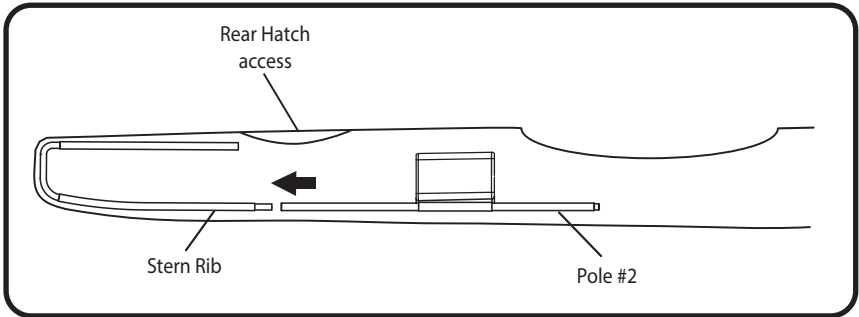

Figure 7
- 7) Install pole #2 into the rear end of the kayak, connecting it with the bottom portion of the Stern Rib. The pole should be on top of the foam floor and the numbered end of the pole should be at the cockpit of the kayak. See figure 7.